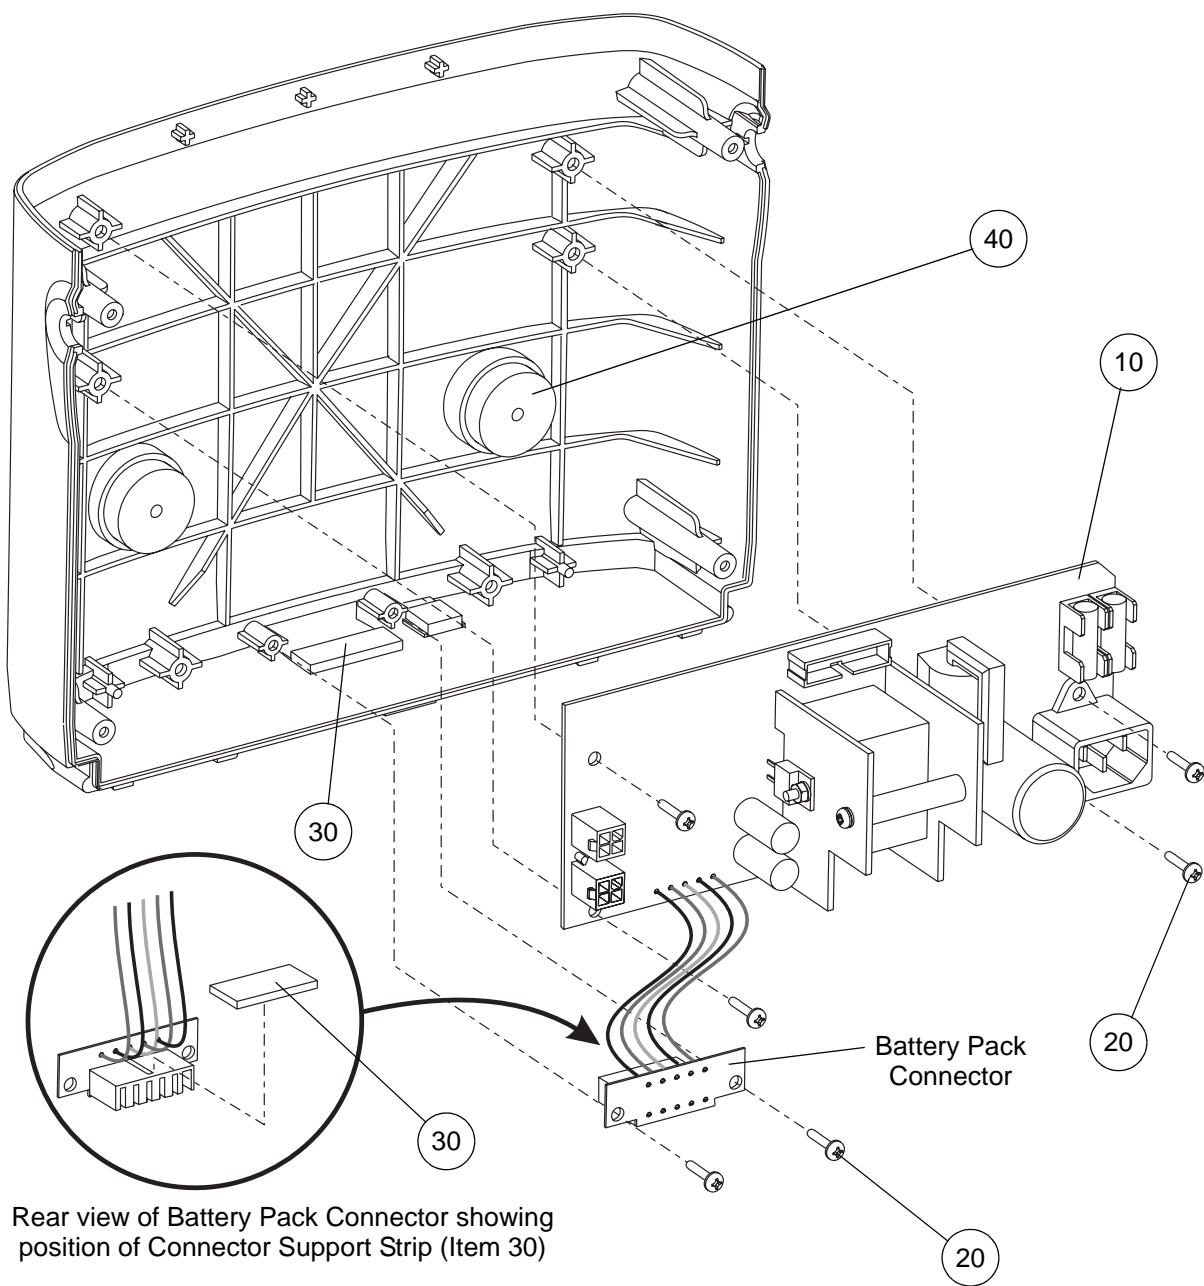

Figure 50 - Replacing the Power Supply PCB Assembly
- 26.3 Remove the two screws (Fig 50, Item 20) and the battery pack connector from the front case.
- 26.4 Remove the four screws (Fig 50, Item 20) and the power supply PCB assembly (Fig 50, Item 10) from the front case.
- 27.1 Put the power supply PCB assembly (Fig 50, Item 10) onto the front case, and install the four screws (Fig 50, Item 20) to secure it.
- 27.2 If a new power supply PCB assembly is being installed, stick a new connector sealing strip (Fig 50, Item 30) to the back of the battery pack connector. If the original power supply PCB assembly is being re-installed, make sure the connector sealing strip is still stuck to the back of the battery pack connector (Refer to Figure 50).
- 27.4 Insert the battery pack connector into the slot in the front case, and install the two screws (Fig 50, Item 20) to secure it.
Note: *Make sure the wires from the power supply PCB assembly to the battery pack connector do not lie on top of the circular compressor support rubbers (Fig 50, Item 40).*